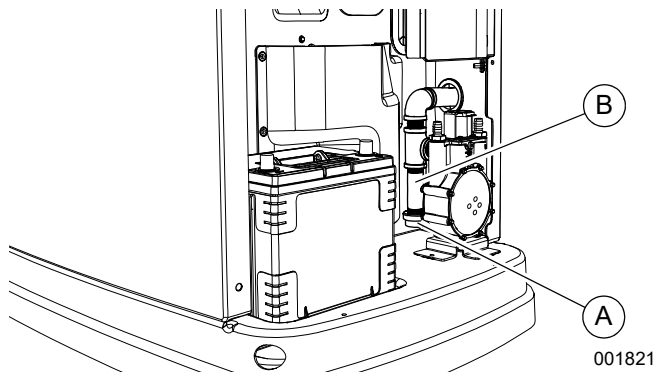

Figure 4-10. Cleaning the Sediment Trap
3. See Figure 4-10. Unscrew and remove cap (A).